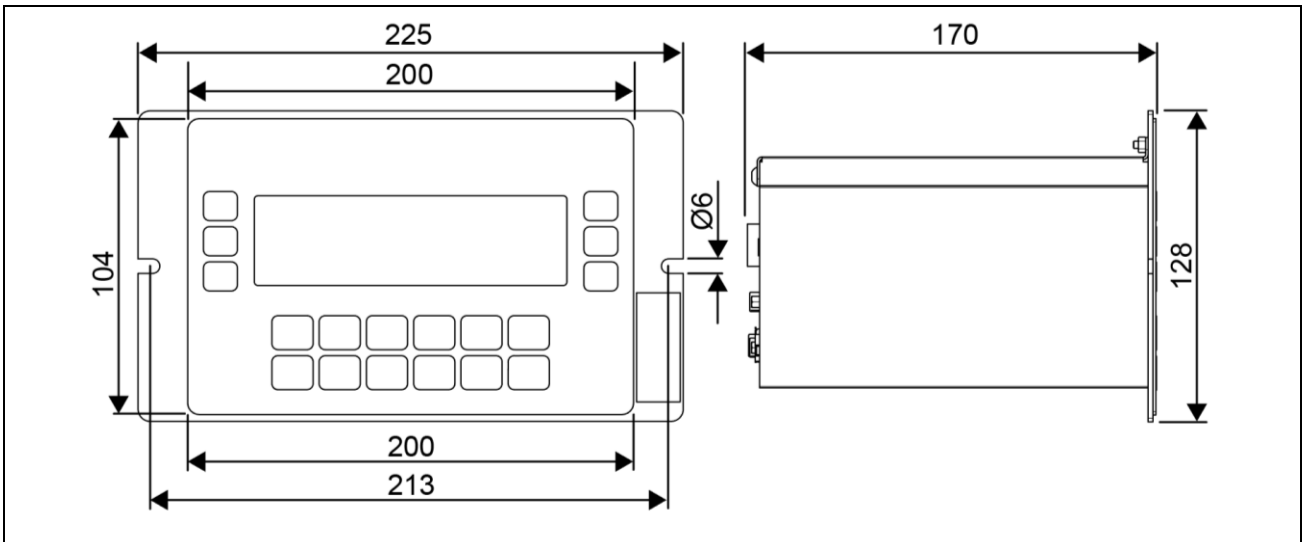

Figure 1.8-4 - Dimensions of the weighing terminal panel mount
- Dimensions (expressed in mm): see figure 1.8.4.